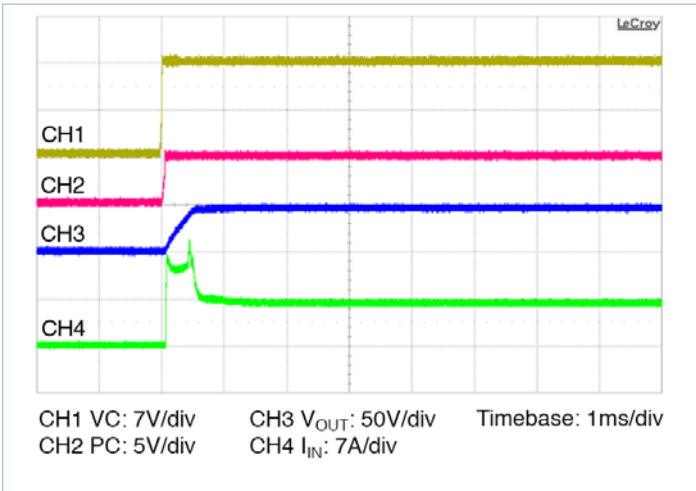

Figure 14 — Start up from application of VC; V_{IN} pre-applied C_{OUT} = 100µF
- **Stand-alone operation (VC applied after V_{IN}):** In this case the VTM output will begin to rise upon the application of the VC voltage (See Figure 14). The Adaptive Soft Start Circuit may vary the output rate of rise in order to limit the inrush current to its maximum level. When starting into high capacitance, or a short, the output current will be limited for a maximum of 1200μs. After this period, the Adaptive Soft Start Circuit will time out and the VTM module may shut down. No restart will be attempted until VC is re-applied or PC is toggled. The maximum output capacitance is limited to 100μF in this mode of operation to ensure a successful start.